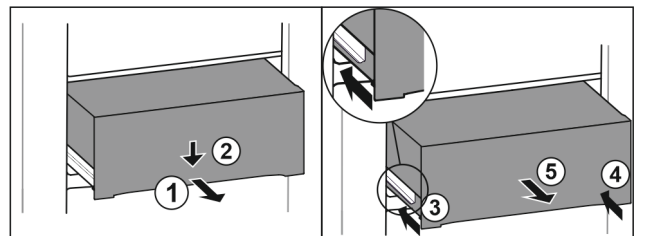

Fig. 70
- ▶ Pull out drawer half-way. Fig. 70 (1)
- ▶ Push the drawer down at the front. Fig. 70 (2)
- ▶ Push the left rail in by about 2 cm. Fig. 70 (3)
- ▶ Push the right rail in by about 2 cm. Fig. 70 (4)
- ▶ Remove drawer to the front. Fig. 70 (5)